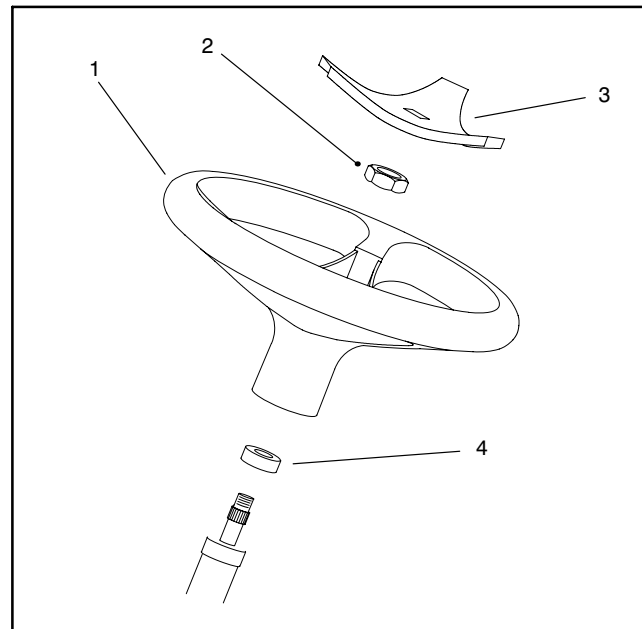

Figure 13
2. Remove the lock nut that secures the steering wheel to the shaft. Pull the steering wheel and foam seal off the steering valve shaft (Fig. 13).
2. Slide the foam seal and the steering wheel onto the steering shaft and secure the steering wheel in place with the lock nut (Fig. 13). Tighten the nut from 20 to 26 ft-lbs. (28 to 35 Nm).